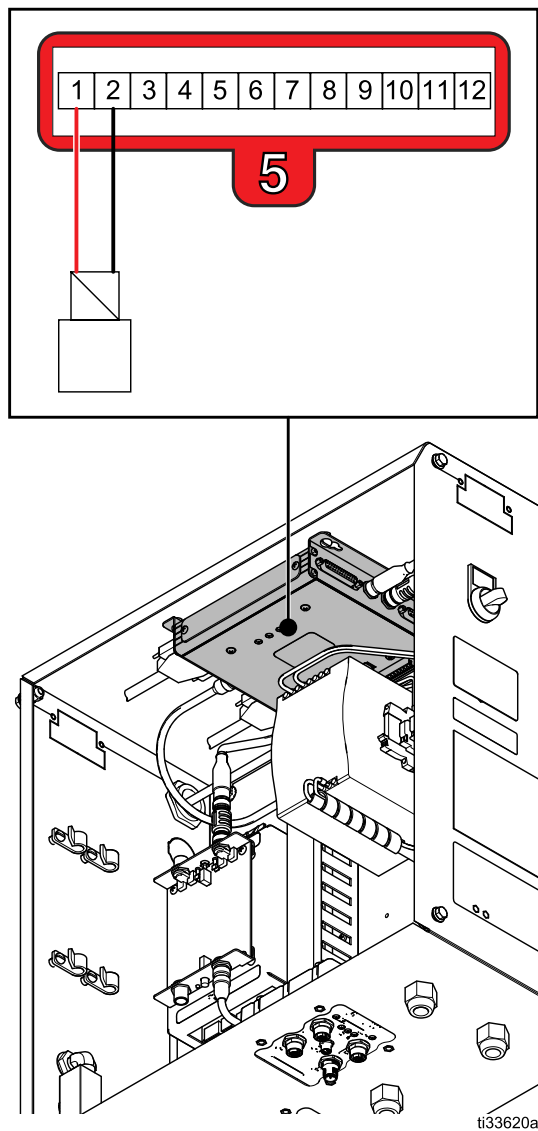
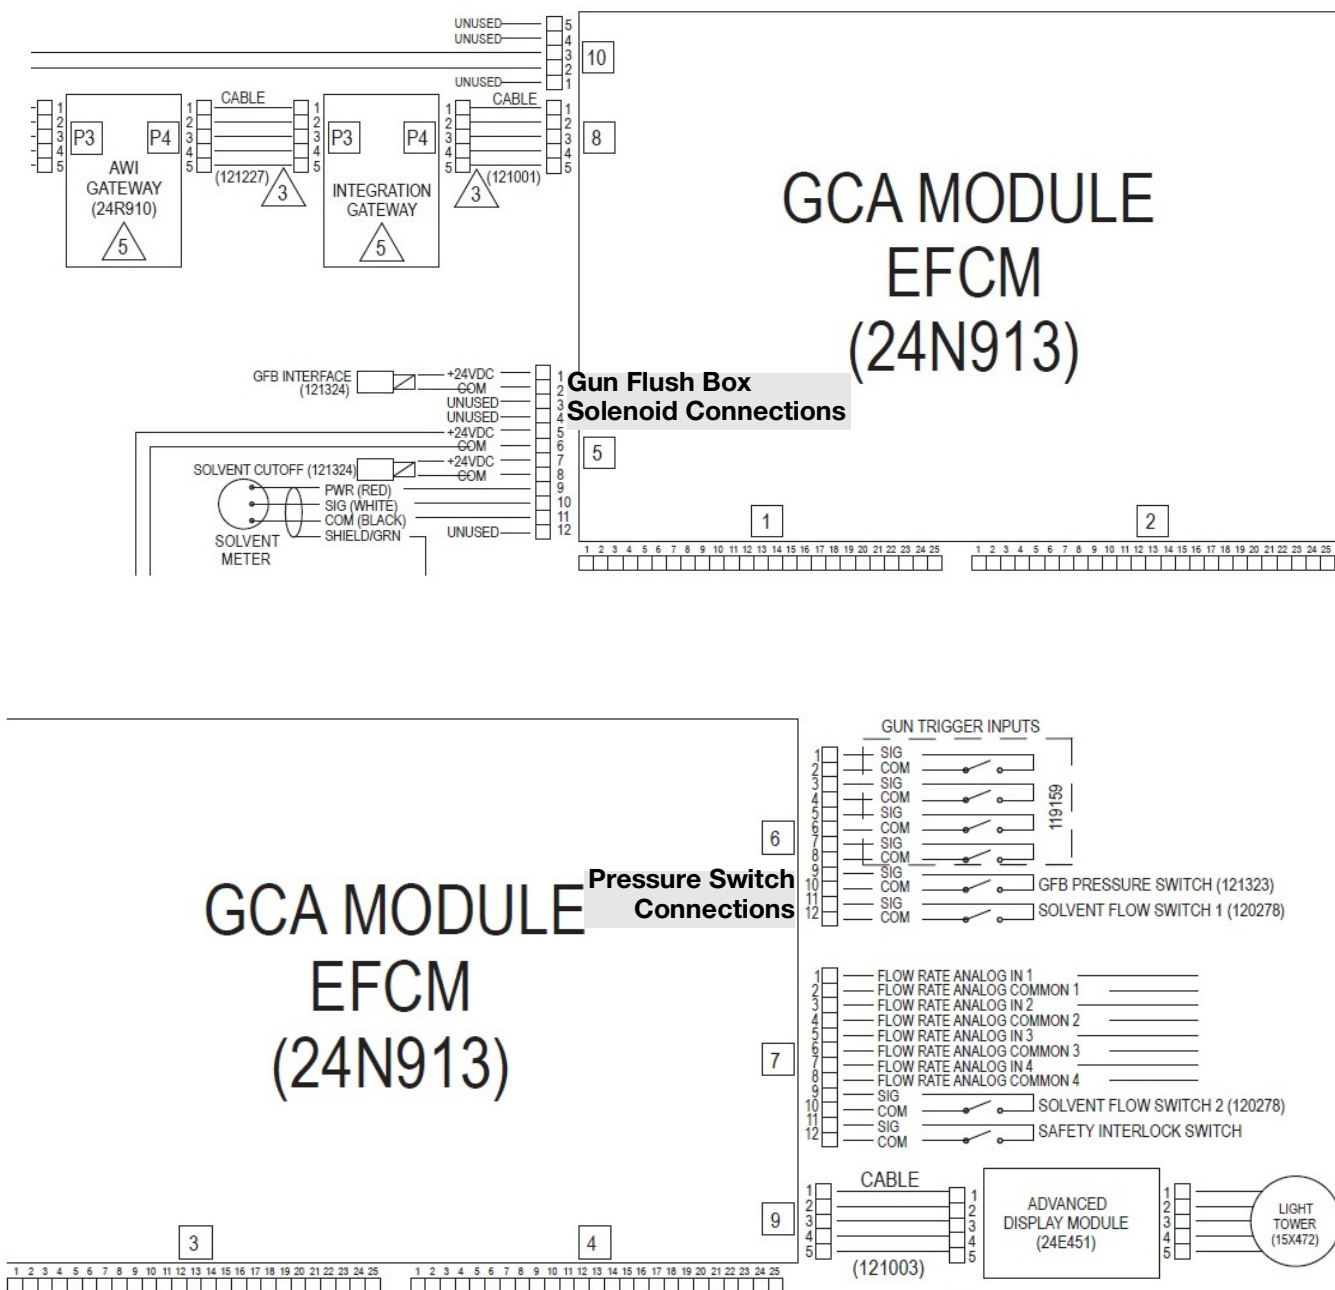

FIG. 20: Wire Solenoid to EFCM
FIG. 21: System Electrical Schematic (ProMix PD2K)
4. Route the pressure switch wires through the wire duct. Connect PS wires to pins 9 and 10 on connector 6 of the EFCM. See FIG. 17 and the electrical schematic (FIG. 21).
5. Route the GFB solenoid wires through the wire duct. Connect the solenoid wires to pin 1 (red) and pin 2 (black) on connector 5 of the EFCM. See FIG. 20 and the Electrical Schematic (FIG. 21).
6. Connect the solenoid wires to pins 1 and 2 on connector 5 of the EFCM. See FIG. 20 and the Electrical Schematic (FIG. 21).